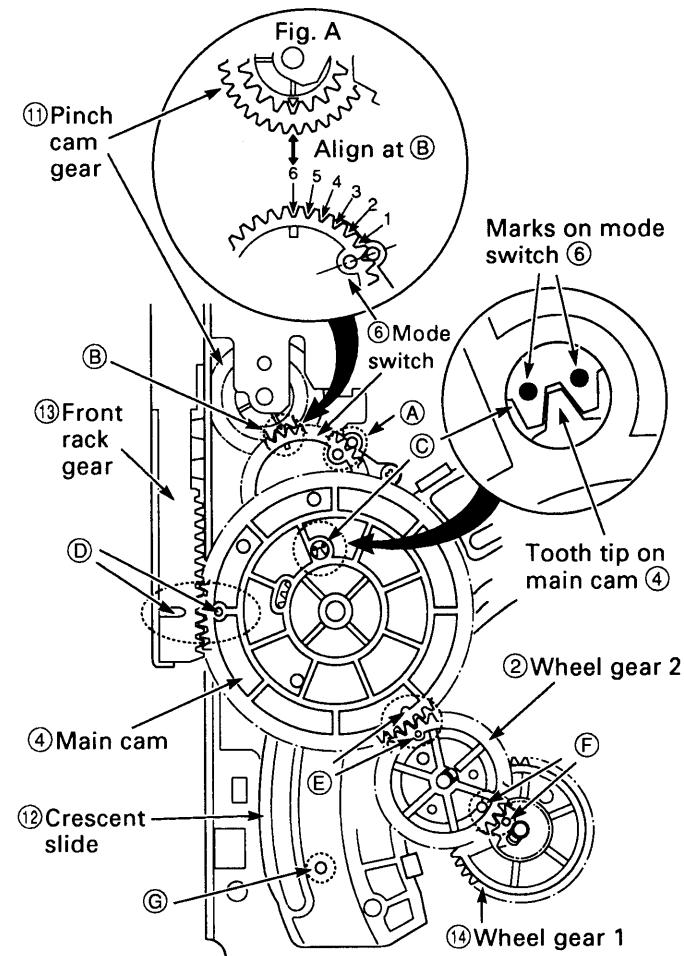
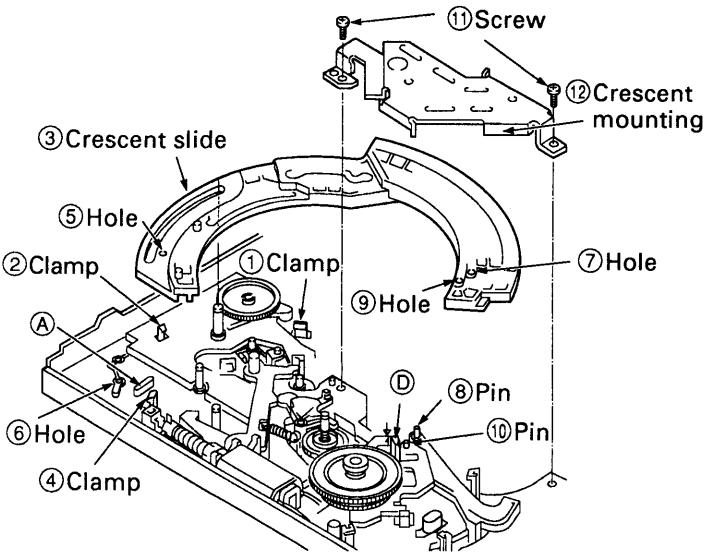

Fig.3-15-2
Fig.3-16-1
1. Apply grease (VHJ-0100) to the shafts ⑧, ⑨ and ⑩, to the teeth of the main cam ④, and to the all over the cam groove of main cam ④.
2. When fitting the mode switch ⑥, align it in ⒶⒷ order as shown in Fig.3-15-2. The alignment of the part Ⓑ is shown in Fig. A. Position the teeth of the mode switch ⑥ so that the sixth tooth space left of part Ⓐ is aligned with the triangular mark on the pinch cam gear ⑪. After aligning part Ⓑ, refer to section 3-9-2 and check the positioning of the mode switch, the pinch cam gear and the pinch lift cam.
4. Align the hole in the crescent slide ⑫ with the hole in the mechanism chassis, as shown at point ⑬ in Fig.3-15-2 (refer to section 3-16 and see the holes ⑮ and ⑯ in Fig.3-16-1).
5. When fitting the main cam ④, position the mode switch ⑥ and the front rack gear ⑯ as shown at points ⑭ and ⑮ respectively in Fig.3-15-2.
6. When fitting the gear wheel 2 ②, position the main cam ④ and the wheel gear 1 ⑯ as shown at points ⑯ and ⑰ respectively in Fig.3-15-2.
(See Figs.3-16-1 and 3-16-2)
1. Apply grease (VHJ-0100) to the points ④, ⑤, ⑥, ⑦, ⑧, ⑨, ⑩, ⑪, ⑫ and ⑬ in Fig.3-16-1, and to the crescent slide ③ shown in Fig.3-16-2.